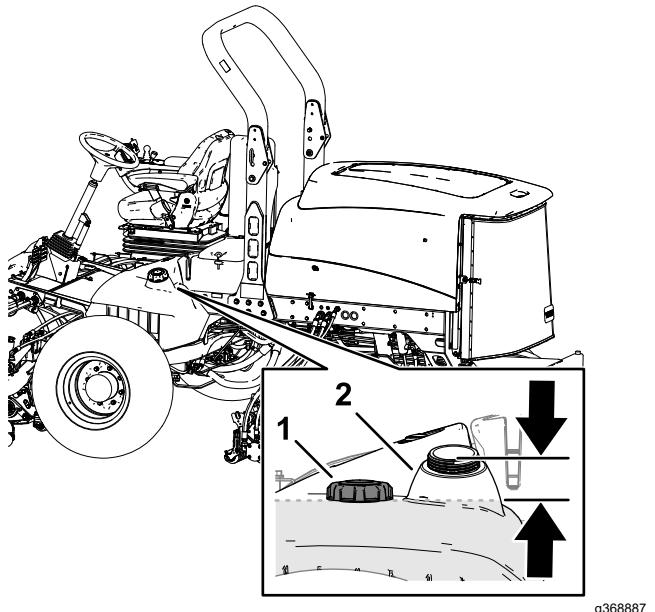

Figure 39
3. Remove the cap from the fuel tank (Figure 39).